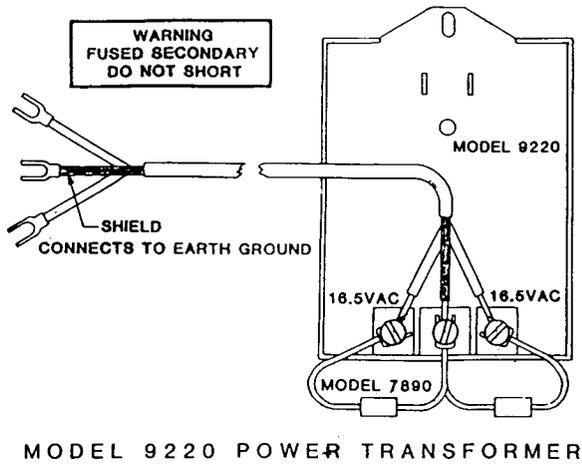

FIGURE 3
Figure 3 shows the connection of the Model 7890 Transient-Surge Protector to the Model 9220 UL Listed Class II Power Transformer (16.5 VAC 45VA). The transformer should be plugged into the 120 VAC 60 Hz. continuous duty (unswitched) grounded outlet mounted to the bottom of the 5107 cabinet as shown in Figure A.
1. AC INPUT PROTECTION - Fast acting "Tranzorbs" (Model 7890) connected between each side of the Class II transformer and earth ground (Refer to Figure 3). MOV (Metal Oxide Varistor) protection between each side of the AC input and earth ground.
Connect the common lead of the Model 7890 protection device to earth ground (via shielded two-conductor cable and ground pin of the Class II transformer as shown in figure 3)